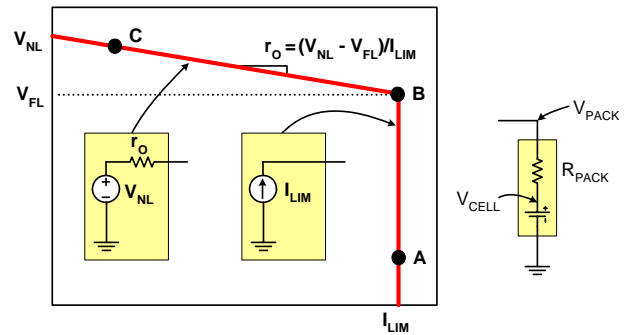
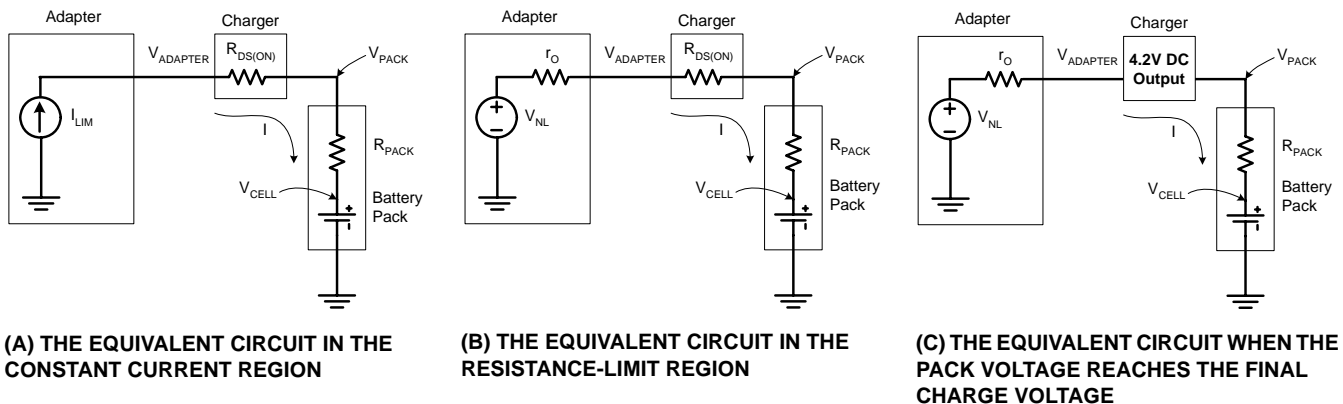
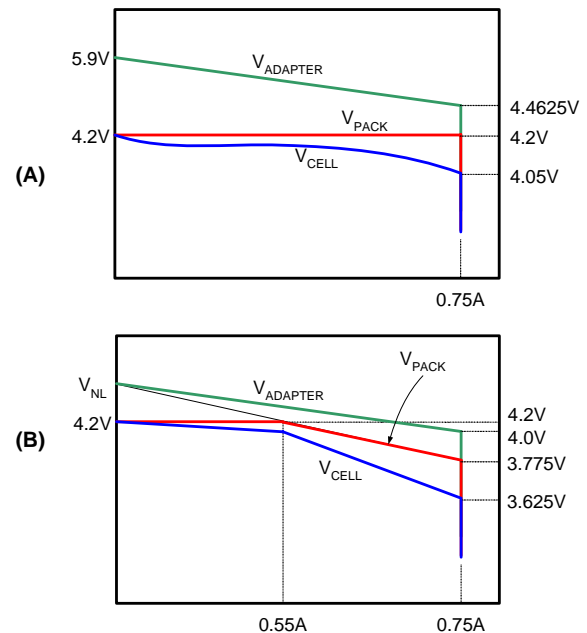
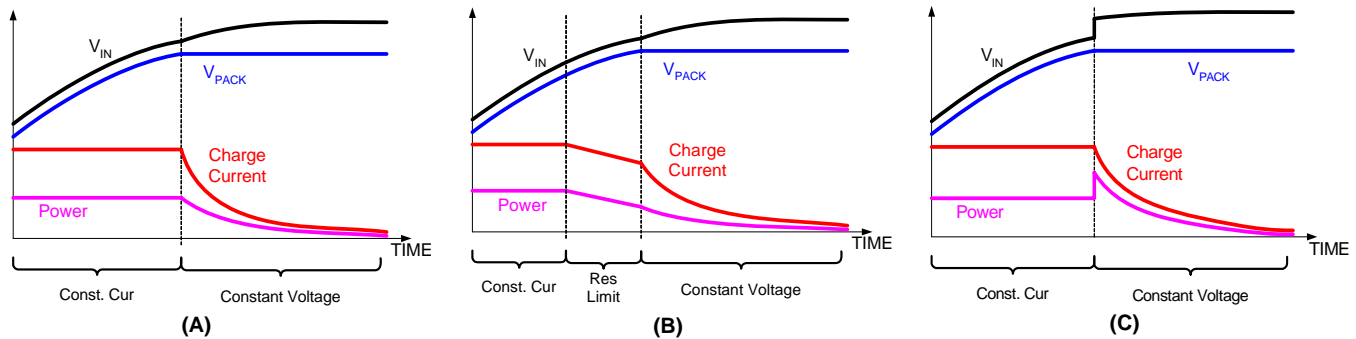

FIGURE 24. THE IDEAL I-V CHARACTERISTICS OF A CURRENT LIMITED ADAPTER
FIGURE 25. THE EQUIVALENT CIRCUIT OF THE CHARGING SYSTEM WORKING WITH CURRENT LIMITED ADAPTERS
FIGURE 26. THE I-V CHARACTERISTICS OF THE CHARGER WITH DIFFERENT CURRENT LIMITED ADAPTERS
FIGURE 27. THE OPERATING CURVES WITH THREE DIFFERENT CURRENT LIMITED ADAPTERS
Figure 24 shows the ideal current-voltage characteristics of a current-limited adapter. V_{NL} is the no-load adapter output voltage and V_{FL} is the full load voltage at the current limit I_{LIM} . Before its output current reaches the limit I_{LIM} , the adapter presents the characteristics of a voltage source. The slope r_O represents the output resistance of the voltage supply. For a well regulated supply, the output resistance can be very small, but some adapters naturally have a certain amount of output resistance.
current-voltage characteristics curve, such as point A, to higher voltage until reaching the breaking point B, as shown in Figure 24.
The adapter is equivalent to a voltage source with output resistance when running in the constant-voltage region; because of this characteristic. As the charge current drops, the adapter output moves from point B to point C, shown in Figure 24.
The battery pack can be approximated as an ideal cell with a lumped-sum resistance in series, also shown in Figure 24. The ISL6292 charger sits between the adapter and the battery.
As described earlier, the ISL6292 minimizes the thermal dissipation when running off a current-limited AC adapter, as shown in Figure 18. The thermal dissipation can be further reduced when the adapter is properly designed. The following demonstrates that the thermal dissipation can be minimized if the adapter output reaches the full-load output voltage (point B in Figure 24) before the battery pack voltage reaches the final charge voltage (4.1V or 4.2V). The assumptions for the following discussion are: the adapter current limit = 750mA, the battery pack equivalent resistance = 200mΩ, and the charger ON resistance is 350mΩ.
When charging in the constant-current region, the pass element in the charger is fully turned on. The charger is equivalent to the on-resistance of the internal P-channel MOSFET. The entire charging system is equivalent to the circuit shown in Figure 25(A). The charge current is the constant current limit I_{LIM} , and the adapter output voltage can be easily found out as,
A critical condition of the adapter design is that the adapter output reaches point B in Figure 24 at the same time as the battery pack voltage reaches the final charge voltage (4.1V or 4.2V), that is:
When the above condition is true, the charger enters the constant-voltage mode simultaneously as the adapter exits the current-limit mode. The equivalent charging system is shown in Figure 25(C). Since the charge current drops at a higher rate in the constant-voltage mode than the increase rate of the adapter voltage, the power dissipation decreases as the charge current decreases. Therefore, the worst case thermal dissipation occurs in the constant-current charge mode. Figure 26 (A) shows the I-V curves of the adapter output, the battery pack voltage and the cell voltage during the charge. The 5.9V no-load voltage is just an example value higher than the full-load voltage. The cell voltage 4.05V uses the assumption that the pack resistance is 200m Ω . Figure 27 (A) illustrates the adapter voltage, battery pack voltage, the charge current and the power dissipation in the charger respectively in the time domain.
If the battery pack voltage reaches 4.2V (or 4.1V) before the adapter reaches point B in Figure 24, a voltage step is expected at the adapter output when the pack voltage reaches the final charge voltage. As a result, the charger power dissipation is also expected to have a step rise. This case is shown in Figure 18 as well as Figure 27 (C). Under this condition, the worst case thermal dissipation in the charger happens when the charger enters the constant voltage mode.
is shown in Figure 25(B). Eventually, the battery pack voltage will reach 4.2V (or 4.1V) because the adapter no-load voltage is higher than 4.2V (or 4.1V), then Figure 25(C) becomes the equivalent circuit until charging ends. In this case, the worst-case thermal dissipation also occurs in the constant-current charge mode. Figure 26(B) shows the I-V curves of the adapter output, the battery pack voltage and the cell voltage for the case $V_{FL} = 4V$. In the case, the full-load voltage is lower than the final charge voltage (4.2V), but the charger is still able to fully charge the battery as long as the no-load voltage is above 4.2V. Figure 27(B) illustrates the adapter voltage, battery pack voltage, the charge current and the power dissipation in the charger respectively in the time domain.
Figure 29 shows the actual captured waveforms depicted in Figure 27 (C). The constant charge current is 750mA. A step in the adapter voltage during the transition from CC mode to CV mode is demonstrated.